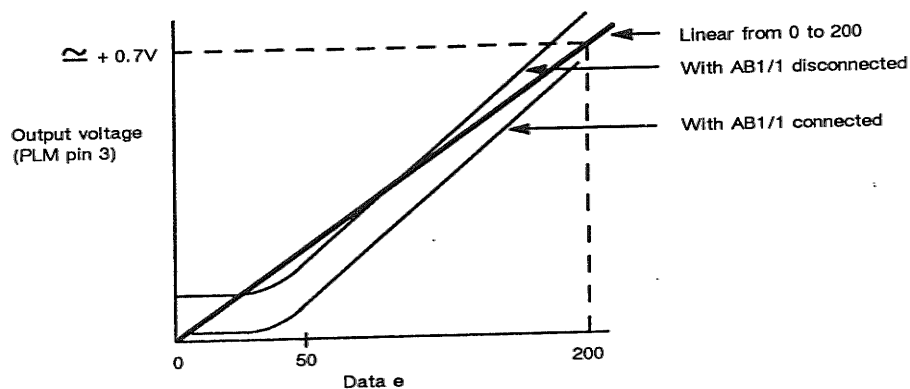

Fig. 5-17 Effect of square-law correction circuit A2/2
85. If the square law correction circuit around IC27 is operating, set latch 13 to 10. The voltage at IC27 pin 10 will be less than 1/20th of the reading than with the latch set to 200, as shown in Fig. 5-17.